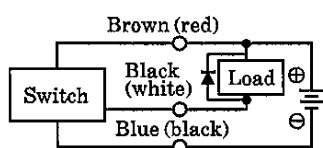

Fig. 7 Example of inductive load with surge absorption diode. Diode must be Hitachi V06C or equivalent.
- When inductive load (relay, solenoid valve) is connected, surge voltage occurs when the switch is turned off. Be sure to provide the protection circuit shown in Fig. 7.